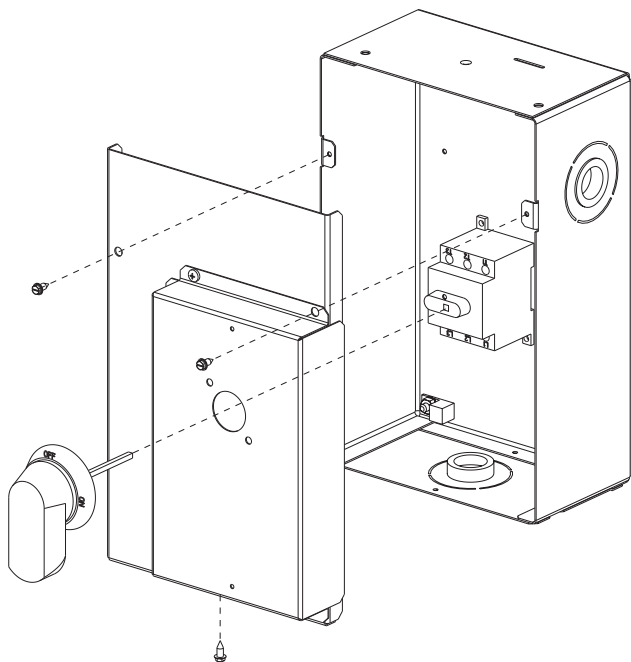

Fig. 25 — Handle and Shaft Assembly for NFD
2. Remove (3) hex screws on the NFD enclosure - (2) on the face of the cover and (1) on the bottom (see Fig. 25).
9. Secure the handle to the painted cover with (2) screws and lock washers supplied.
10. Engaging the shaft into the handle socket, re-install (3) hex screws on the NFD enclosure.